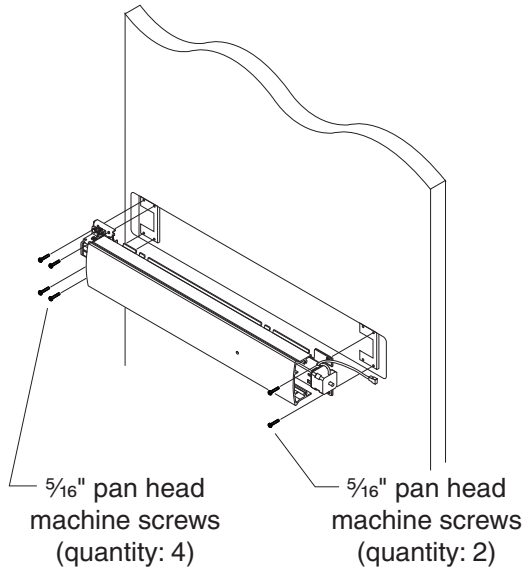

Figure 5-1
- Mount device on door using supplied mounting screws (Figure 5-1).